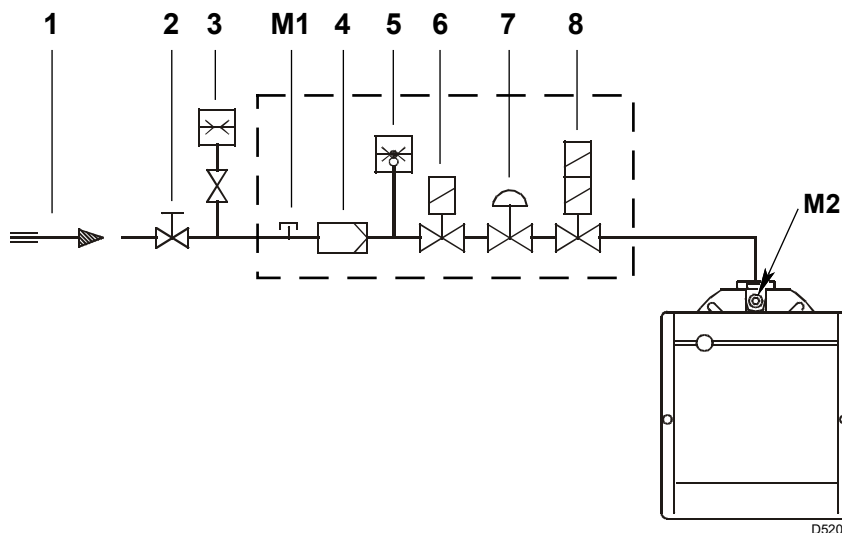

Fig. 15
Key (Fig. 15)
Gas pressure measured at test point M2)(Fig. 15), with:
- subtract the pressure in the combustion chamber from the pressure of the gas at test point M2)(Fig. 15).
Gas pressure at test point M2)(Fig. 15) = 12.2 mbar
To calculate the required gas pressure at test point M2)(Fig. 15), with the maximum modulating output at which you want the burner to operate having been fixed:
- Read on the right, column 1, the pressure at the socket M2)(Fig. 15).
pressure required at the test point M2)(Fig. 15).